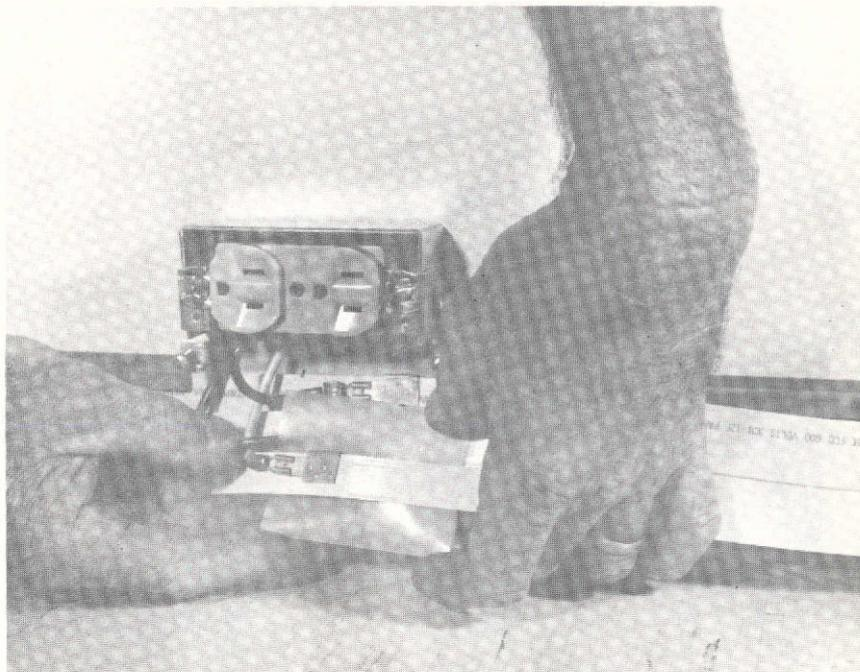

Figure 12. Insulating Connections with Mylar Wrap
5. Install Mylar wrap insulator (see Figure 12). The end of the Mylar wrap insulator is inserted through the separated perforations in the cable going behind the middle conductor and enclosing only the top and bottom conductors.